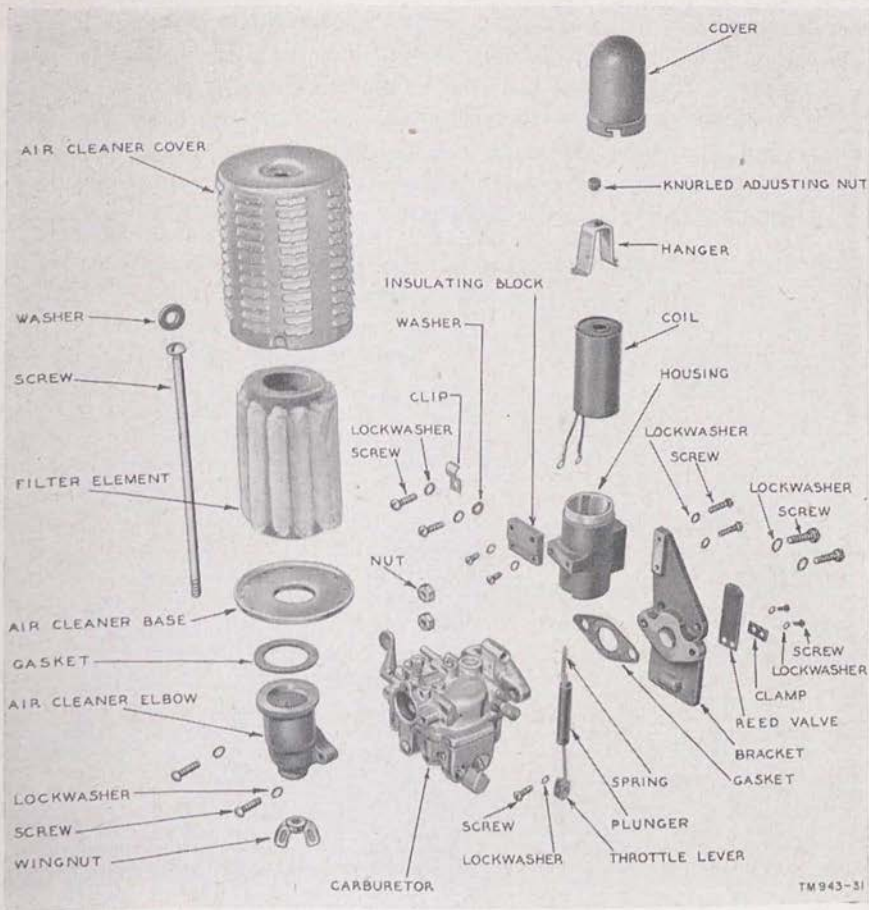

Figure 31. Air cleaner, electric governor, and carburetor
62. Air Cleaner and Air Cleaner Adapter Disassembly (fig. 31.)
a. Separate the carburetor from the electric governor (figs. 31 and 32).
- (1) Remove the two screws that hold the carburetor to the governor mounting bracket.
- (2) Loosen the screw on the throttle lever attached to the solenoid plunger and throttle shaft.
- (3) Slide the throttle lever from the throttle shaft. Separate the governor from the carburetor.
- f. Remove the idle adjustment screw (20), spring, idle tube and gasket. Also remove the main nozzle channel-plug screw from the upper body.
64. Electric Governor (fig. 31)
a. Clean the muffler body, stud, and head with solvent (SD). Dry thoroughly.
a. REED VALVE INSPECTION (fig. 31). Check the carburetor reed valve to be sure that it seats fully. The reed is concave approximately .002 inch. *To function properly, the concave side of the reed*
c. **INLET NEEDLE AND SEAT**. A constant gasoline level in the bowl and all channels of the carburetor is maintained by inlet needle and seat assembly (C) and float (F).
- (1) Separate the fuel bowl assembly from the upper assembly and gasket (par. 63b and c).
- (2) With the fuel bowl assembly held in the upside down position, then the lowest point of the float, at its free end, should project $\frac{1}{64}$ of an inch below the rim of the fuel bowl. If resetting is required, remove the float (par. 63d) and slightly bend the vertical float lever to obtain proper measurement. When inspection indicates that the fuel level continues to rise beyond the float setting point, remove the inlet needle and seat and clean their seating surfaces with a soft cloth. Place the inlet needle in its seat and tap very lightly while turning the inlet needle with the thumb and forefinger several times to reseat. Reinstall, then, if the proper fuel level is not maintained, install a new inlet needle and seat assembly. (*Do not change float setting from manufacturer's specifications.*)
72. Air Cleaner (fig. 31)
(fig. 31)